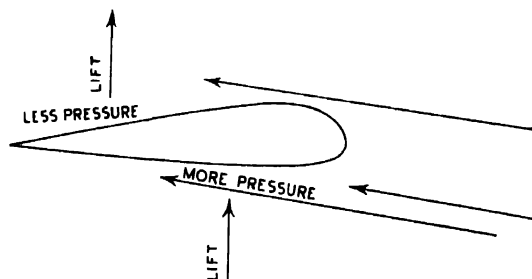

FIG. 1. Section of aeroplane's wing, showing areas of increased and decreased pressure.
**I**N a sense, a sail operates in the same way as an aeroplane's wing, though the job it does is quite different. The wing, in a simple form, as in Fig. 1, is so shaped and positioned that the pressure below is slightly increased owing to the inclination of the lower surface to the